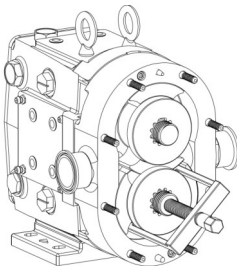

Figure 26: Removing Rotors (Gear Puller)
4) Remove the rotors by orientating them perpendicular to each other and then pulling them out. It is important to be cautious with the rotors so that they are not damaged in any way. If rotors are difficult to remove, use a nylon or wood lever to pry them out without damaging the body or the rotors. If needed, use a gear puller in orientation shown in Figure 26 and handle with caution.